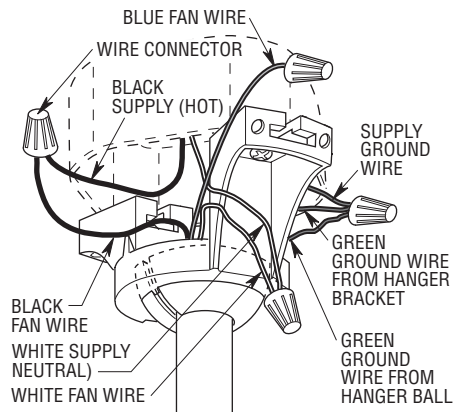

Figure 16
- 2. Securely connect the fan motor white wire to the supply white (neutral) wire using wire connector supplied (Figure 16). Securely connect the fan motor black wire to the supply black (hot) wire using wire connector supplied (Figure 16).